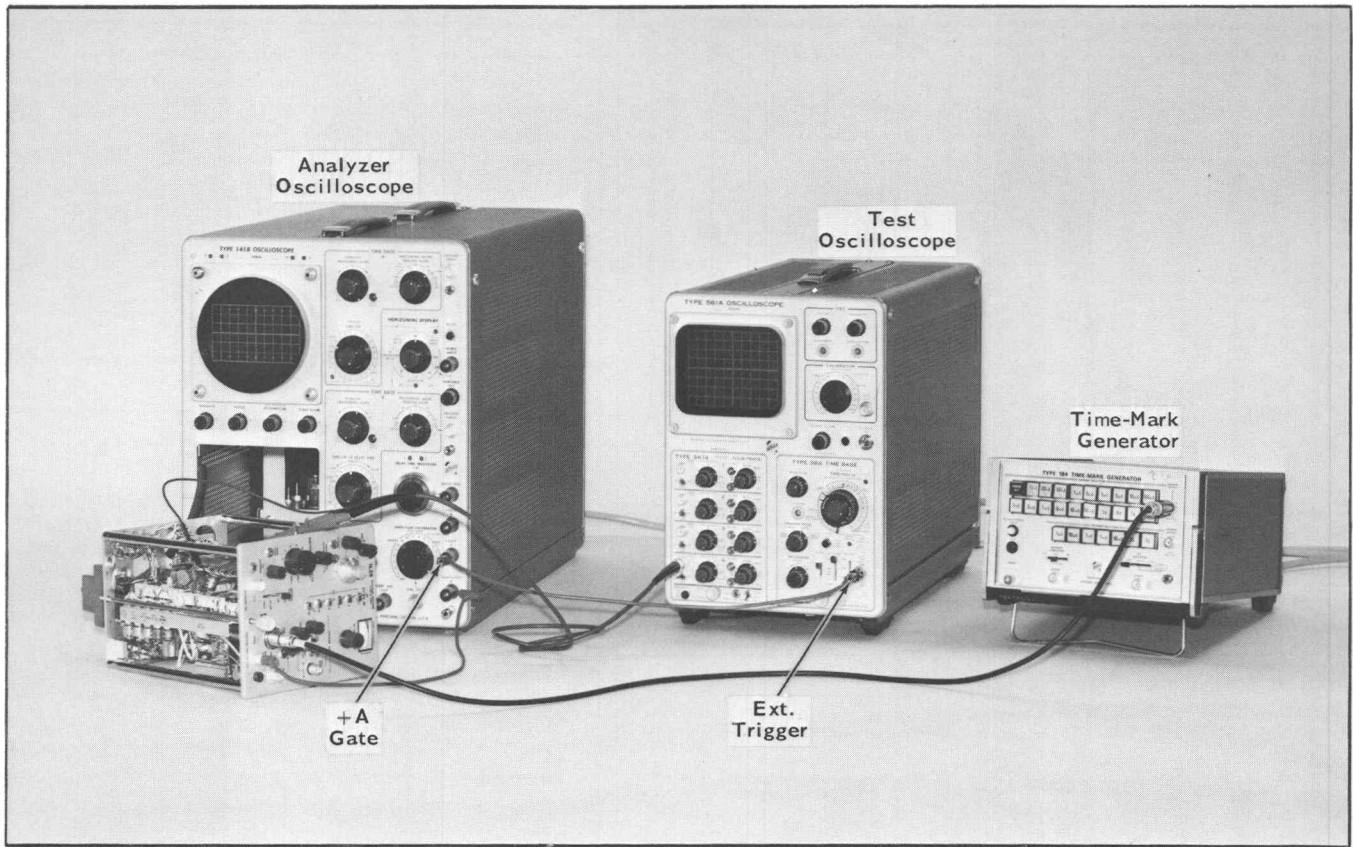

Fig. 6-6. Setup for adjusting Resolution (Step 4).
a. Connect the equipment as shown in Fig. 6-6. (The test oscilloscope probe is on Pin B of the IF Chassis square-pin connector board.)